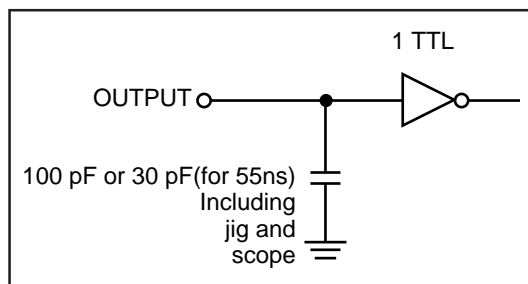

Figure 1
Output Load	See Figures 1 and 2
1. Test conditions assume signal transition times of 5 ns or less, timing reference levels of 0.9V, input pulse levels of 0.4V to 1.4V and output loading specified in Figure 1.